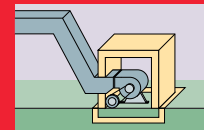

Fig.1
- Surround noisy machines individually, eg heavy motors, high speed fans, with an insulated enclosure, as in **figure 1**. Such enclosures can typically achieve about 30 dB reduction. Ideally, the design should incorporate an impervious enclosure of high mass and with an absorbent lining to prevent reflected noise build-up within the enclosure. Ventilation should be provided and any openings acoustically lined.